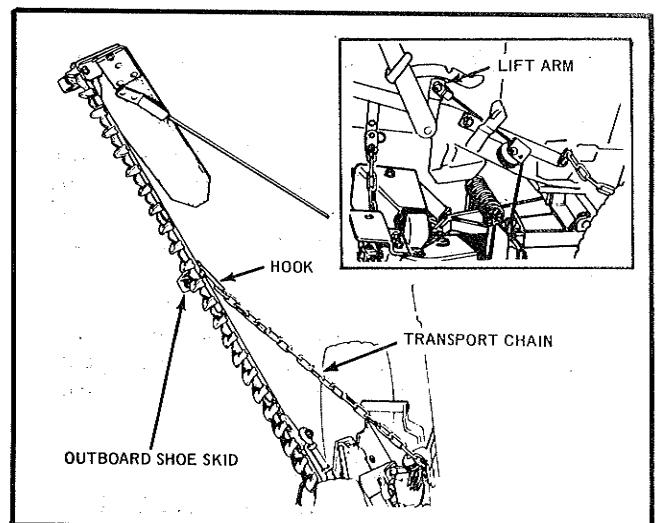

FIGURE 9
4. Fasten the cable pulley mounting bracket to the right hand side of the tractor as shown in Figure 9, and attach the transport chain to the forward mounting bolt used to fasten the pulley bracket to tractor. The rear mounting bolt is held in place with a lock washer and hex nut on the Model 725 tractor (Mfg. No. 210).
When transporting the sickle bar, the sickle bar must be swung up (handle low position, Mfg. No. 210) and locked in the raised position by the transport chain. The hook of the transport chain may be conveniently attached to the outboard skid shoe as shown in Figure 9.